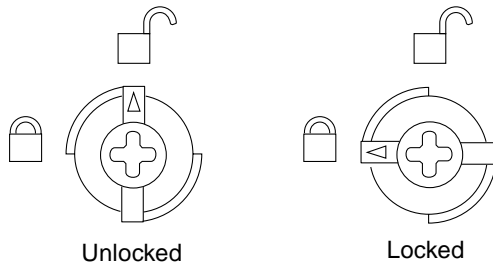
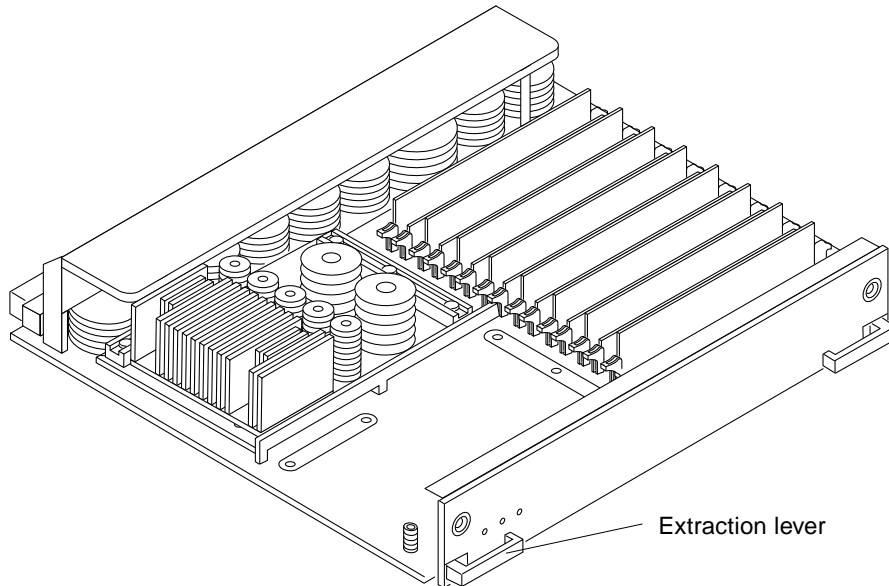

FIGURE 3-3 Unlocking and Locking Quarter-Turn Access Slots
FIGURE 3-4 CPU/Memory+ Board
Insert the screwdriver into each quarter-turn access slot (the slots are on the left and right sides of the board) and turn the arrow to the unlocked position (FIGURE 3-3).
- 3. Pull the ends of both extraction levers outward simultaneously to unseat the board centerplane connector from the centerplane receptacles (FIGURE 3-4).**
Insert the screwdriver into each quarter-turn access slot (the slots are located on the left and right sides of the board front panel) and then turn a quarter turn so that the arrow points to the unlocked position (FIGURE 3-3).
2. **Pull the ends of both extraction levers outward simultaneously to release the board from the centerplane receptacles (FIGURE 3-4).**
2. Ensure that both extraction levers are in the insert position (arrow pointing outward), and that the quarter-turn access slots are unlocked (arrow indicates unlocked position) as you slide the board toward the centerplane receptacles (FIGURE 3-3 and FIGURE 3-4).
- 4. Mechanically lock the board to the system chassis by inserting a Phillips #1 screwdriver into each quarter-turn access slot and then turning to the locked position (FIGURE 3-3).**